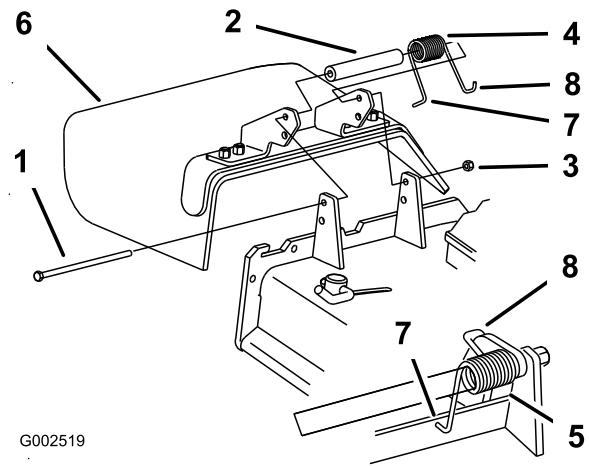

Figure 44
1. Remove the locknut, bolt, spring and spacer holding the deflector to the pivot brackets (Figure 44).
Note: Make sure the **L** end of the spring is installed behind the deck edge before installing the bolt as shown in Figure 44
5. Place the **J** hook end of the spring around the grass deflector (Figure 44).